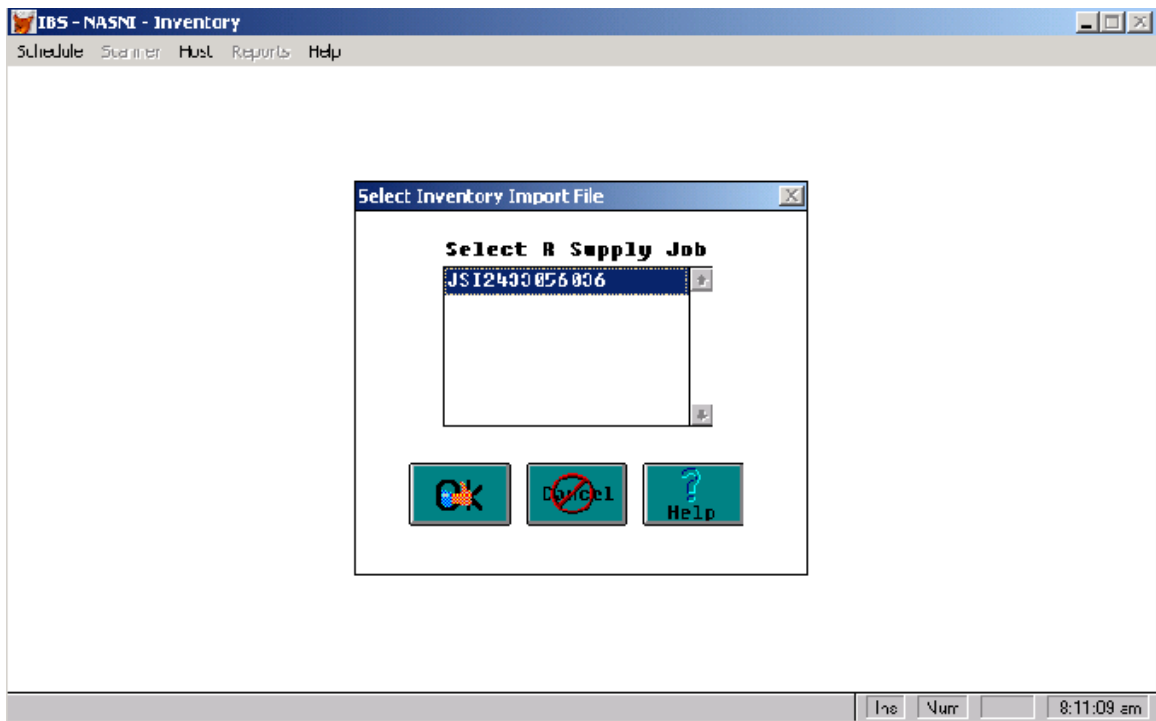

Figure D3
- c. Inventory Import File screen will appear. (FIGURE D3)